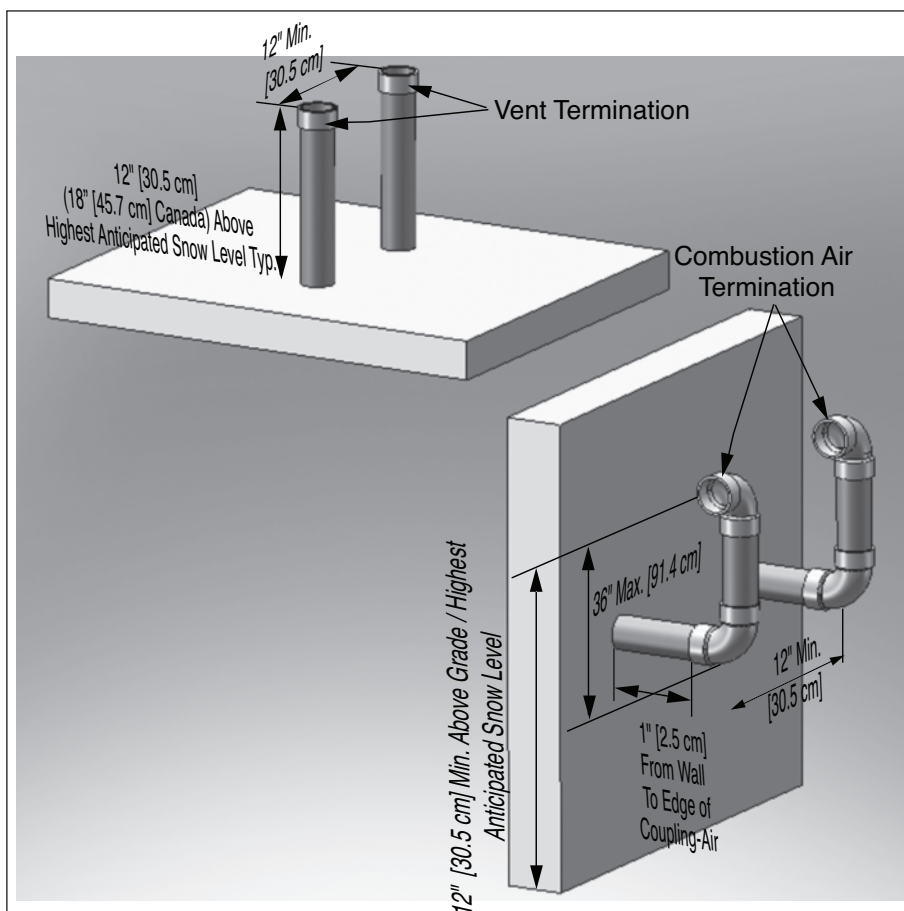

Fig. 17: Direct Vent - Vertical Termination of Vent and Sidewall Termination of Combustion Air of Multiple Appliances
2. Each vent and combustion air termination must be a minimum 12" [30.5 cm] from the adjacent termination for installations in the U.S. as shown in Fig. 17. For installations in Canada, provide clearances as required by CAN/CSA B149.1.